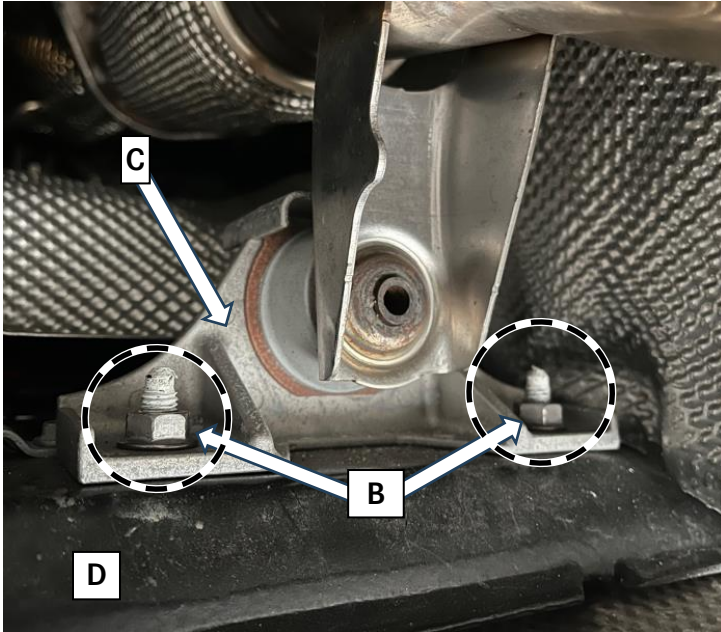

Figure 2
2. Unscrew nuts (Figure 2, B) from the exhaust system holder (Figure 2, C) on the integral carrier (Figure 2, D).
Hm Installation (Figure 2, B): Tightening torque 24 Nm!